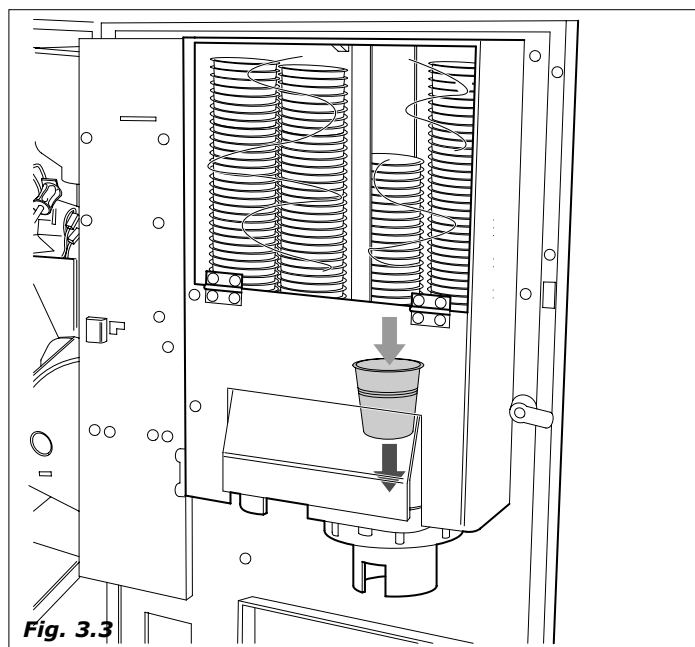

Fig. 3.3
- the motor inside the cup dispenser moves the volutes which separates the cup making it fall into the special holder fork (*Fig. 3.3*)